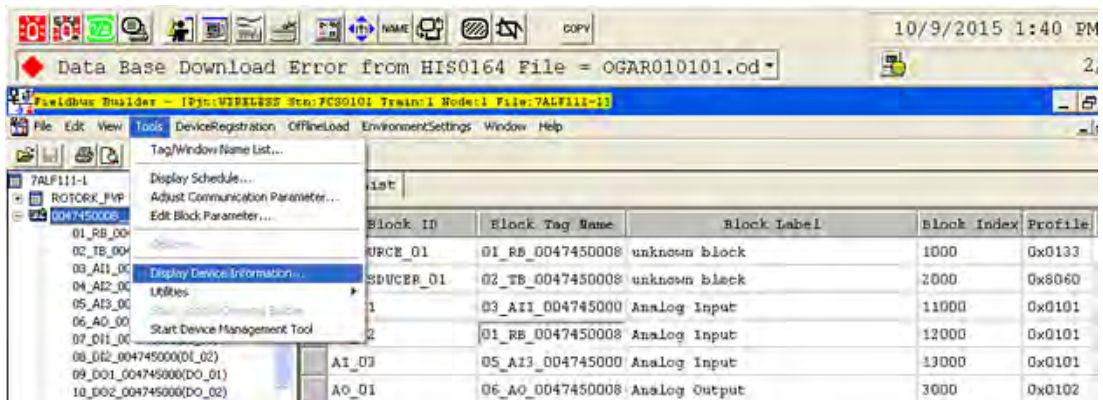

Figure 85 Invoke Display Device Information Window
1. Open the *Device Information* window by selecting **Tools->Display Device Information** from the *Fieldbus Builder* main menu (Figure 85).